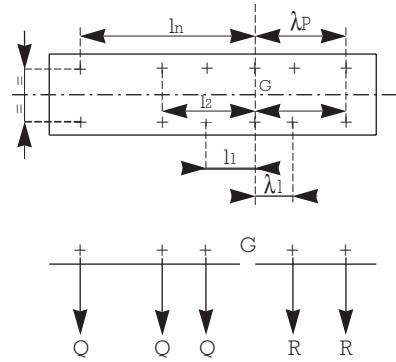

Fig. 15
• More than four mounting points (fig. 15)